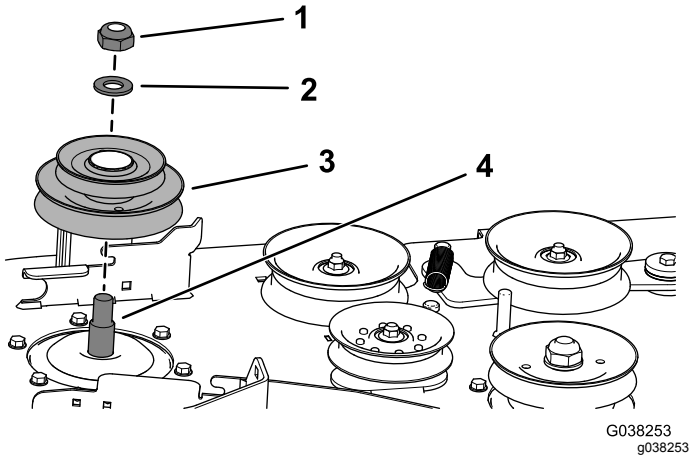

Figure 30
- Use the locknut (3/4 inch) and washer to secure the new double pulley onto the right spindle shaft (Figure 30).